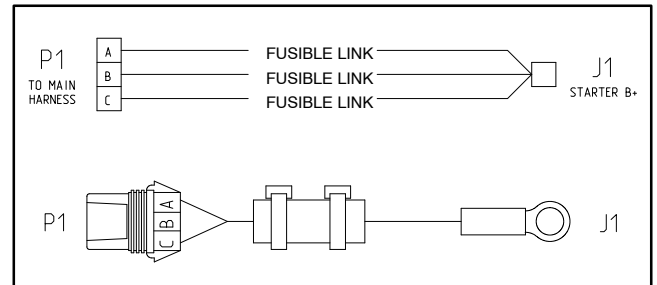

Figure 56
**NOTE:** The fusible link harness shown in Figure 56 uses the fusible links in connector terminals A and B on Groundsmaster 360 2WD machines. Groundsmaster 360 4WD machines use the fusible links in connector terminals B and C. The third fusible link is not used on the Groundsmaster 360.